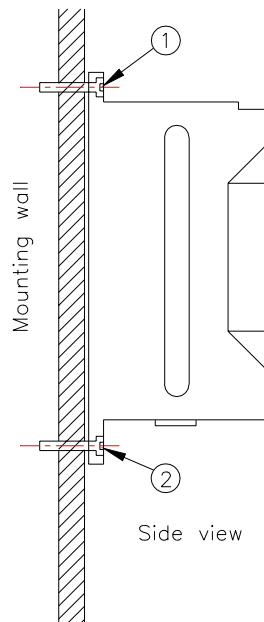

Figure 6 Wall mounting of the bracket with the MRU connector pointing down
2. Mount the MRU bracket on the wall, preferably with the opening pointing down, as shown in Figure 6. Mark and drill an M6 hole for the top screw (1) and enter the screw without tightening it completely. Align the bracket vertically using its own weight or by aligning it in relation to the wall. Drill two holes for the lower screws (2) and insert and securely tighten all three screws, using washers or self-locking nuts.